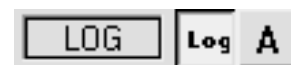
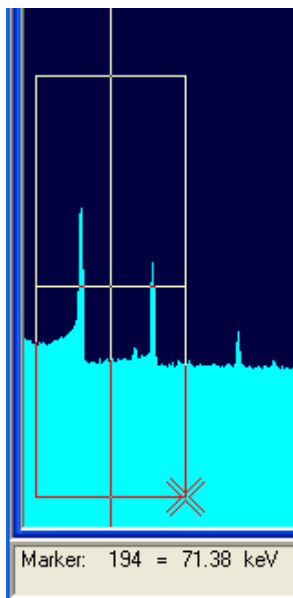

Figure 3. Vertical Scaling Section of Toolbar.
Figure 7.
The next section of the toolbar (Fig. 3) contains the buttons that control the spectrum vertical scale. These commands are also on the **Display** menu. In addition, the vertical and horizontal scales can be adjusted by zooming in with the mouse (see Fig. 7).
The horizontal scaling section (Fig. 4) follows next. It includes a field that shows the current window width in channels, and the **Zoom In**, **Zoom Out**, **Center**, and **Baseline Zero** buttons. These commands are also on the **Display** menu. In addition, horizontal scale can be adjusted by zooming in with the mouse (see Fig. 7).
- Drag the mouse diagonally across the area of interest. As you drag, the mouse will be drawing a reverse-color rectangle bisected by the marker line to form a “crosshair” (Fig. 7). This makes it easy to select the center channel in the area of interest — for instance, the center of an ROI you wish to mark or unmark, a portion of the spectrum to be summed, or a peak for which you want detailed information.